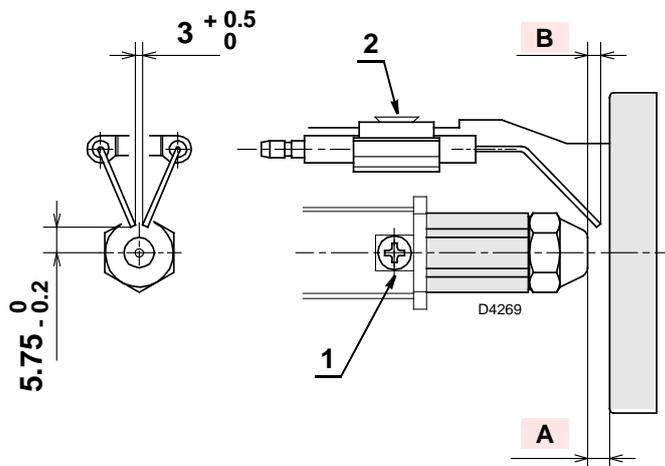

Fig. 19
- Loosening the fixing nut to the flange (1) and remove the burner out of the boiler.
- Hook the burner to the flange (1), by removing the blast tube (2) after loosening the fixing screws (3).
- Remove the small cables (4) from the electrodes (5) and the diffuser disc-holder assembly from the nozzle-holder (6) after loosening its fixing screw (7).
- Once replacement of the nozzle has been made, screw it and tighten it as shown in the Fig. 19.